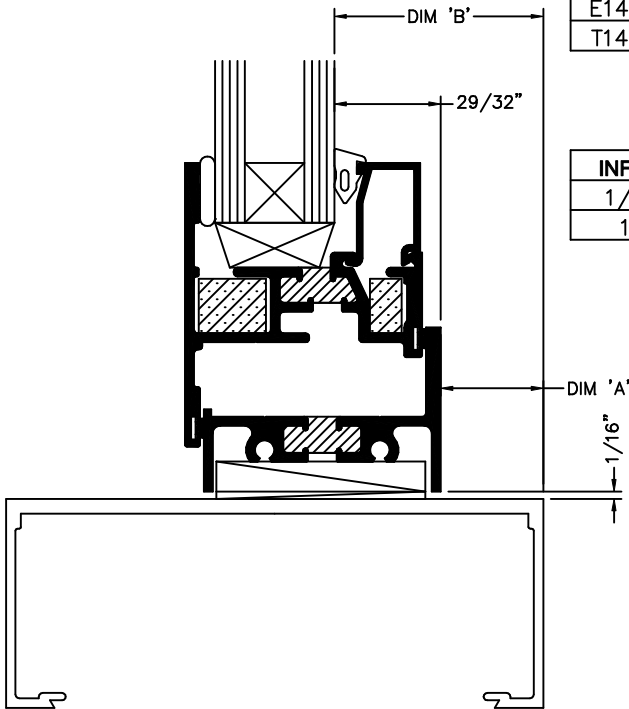

FIGURE 2
- A. FOR TUBELITE FLUSH GLAZE FRAMING, REFER TO TABLE 1 AND FIGURE 2 & 3, FOR LOCATION.
- B. FOR OTHER TYPES OF FRAMING, SEE TABLE 2 AND FIGURES 2 & 3 FOR LOCATION.
2. INSTALL TWO (2) 3/8" x 1" x 4" SETTING BLOCKS AT BOTTOM HINGE SIDE CORNER. LOCATE AS INDICATED IN FIGURES 2 & 3.